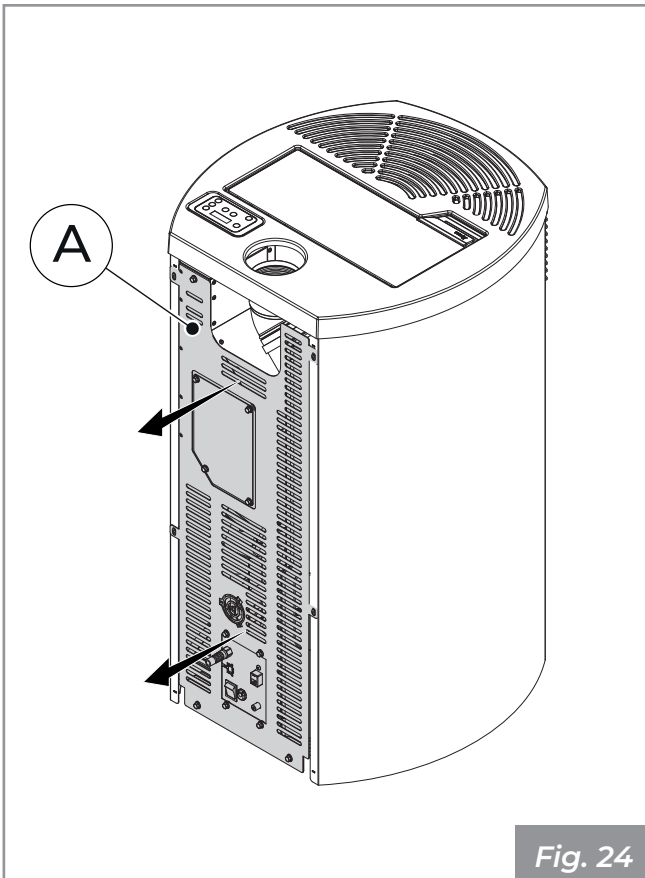

Fig. 24
- Remove the fixing screws of the left side and the back plate (**Fig. 24 - A**).